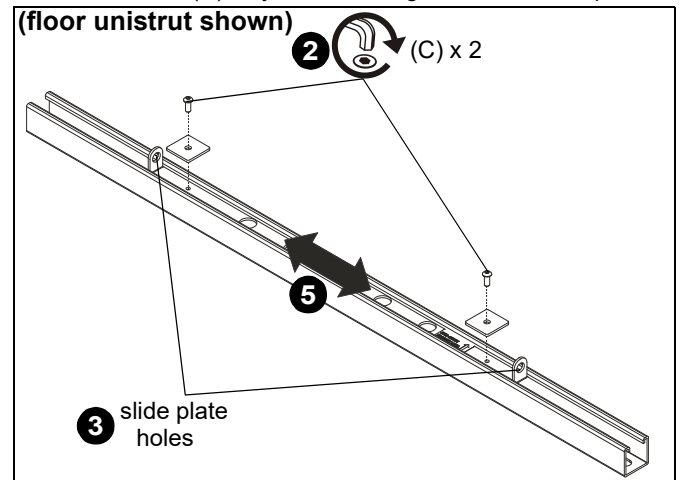

Figure 3
2. Use two 1/4-20 x 5/8" button head cap screws (C) to attach square plates (G) to slide plate (B). (See Figure 3)
5. Adjust position laterally as desired. (See Figure 3)